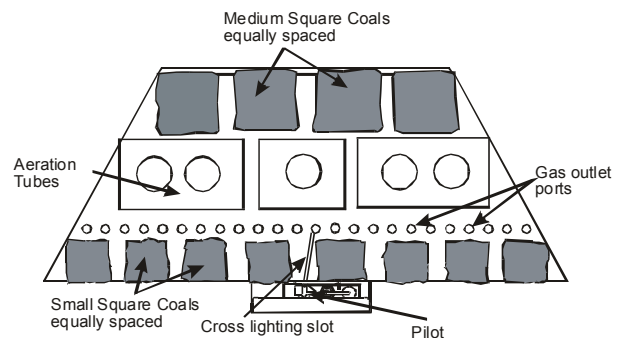

Figure 23
- Following the appropriate set of drawings, form the first layer, using the **Small square** and **Medium square** coals, placing the aeration tubes as shown in **Figure 23**.